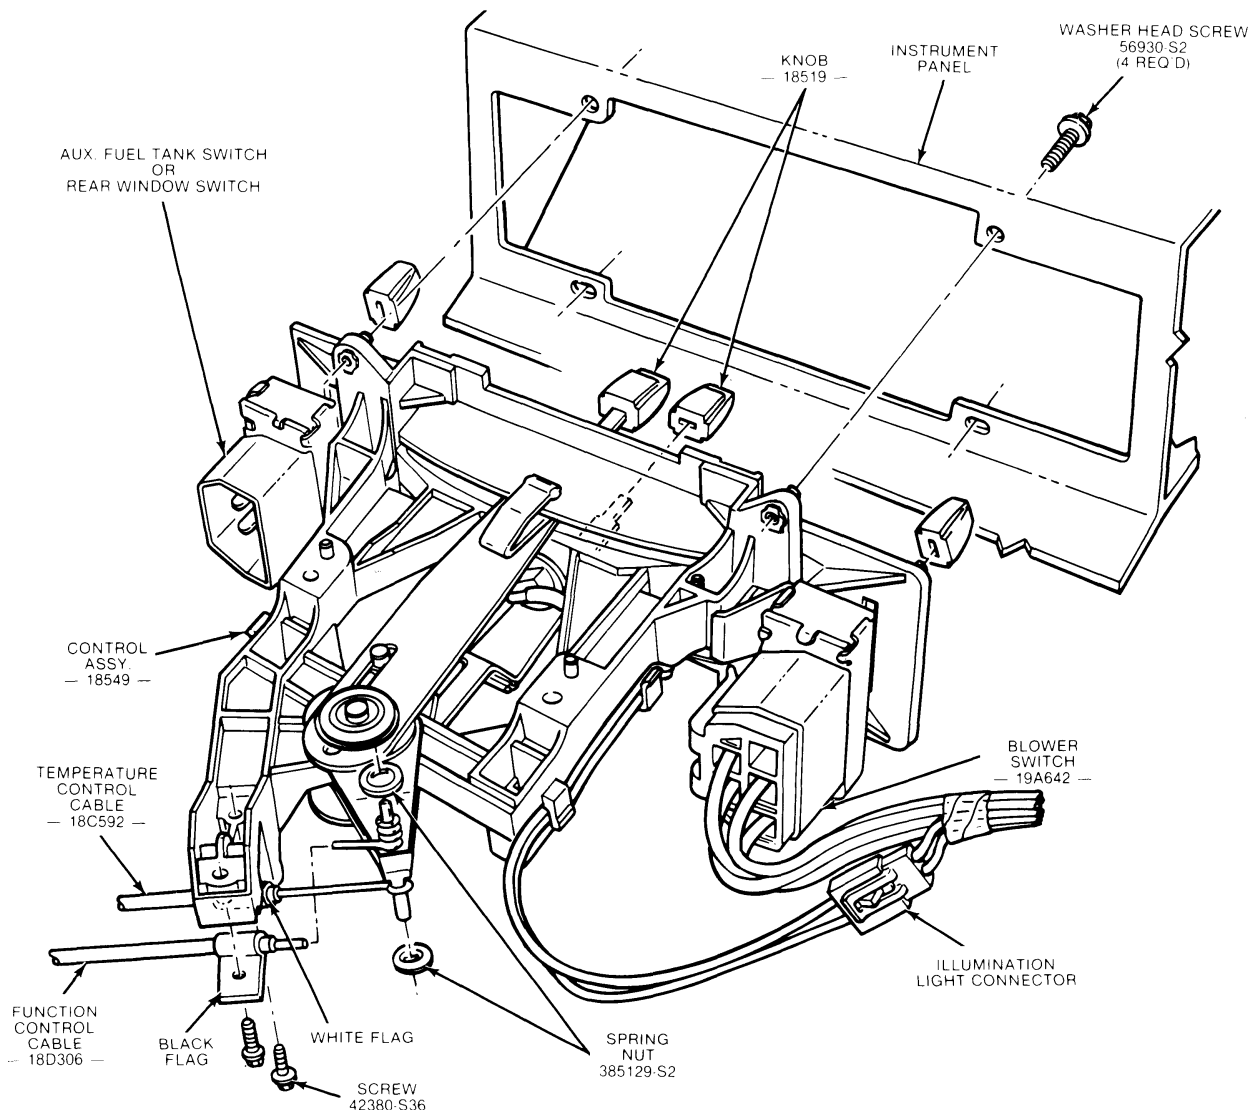

Fig. 6 — Standard and Hi-Output Heater Control Assembly Removal
5. Remove four control assembly attaching screws (Fig. 6).
7. Remove one (1) screw attaching each control cable housing to the control assembly.
2. Install the control cables on the control lever arms and install new spring nuts (Part No. 385129-S2). The cable with the black flag connects to the temperature (upper) lever and the white flag cable connects to the function (lower) lever (Fig. 6).
5. Remove four (4) control assembly attaching screws.
6. Move the control assembly away from the instrument panel and remove the screw attaching the temperature cable housing to the control assembly (Fig. 6). It may be necessary to disconnect the wire harness from the control assembly to position the control assembly for removal of the cable attaching screw.
3. Remove two (2) attaching the top of the instrument panel center finish panel to the instrument panel pad and remove the finish panel.
6. Move the control assembly away from the instrument panel and remove the screw attaching the function cable housing to the control assembly (Fig. 6). It may be necessary to disconnect the wire harness from the control assembly to position the control assembly for removal of the cable attaching screw.